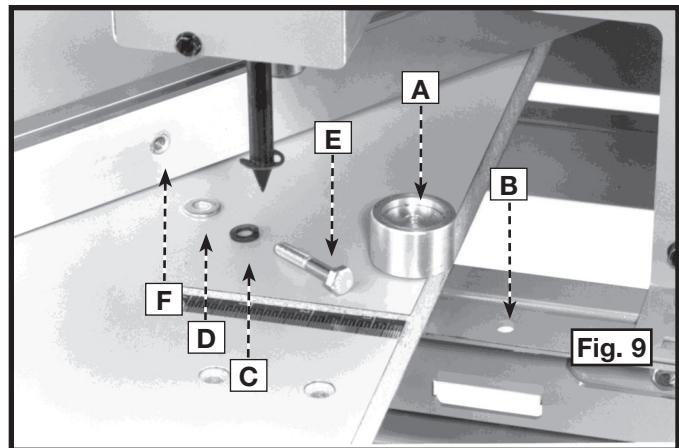

Fig. 9
1. Place the spacer (A) Fig. 9 over the hole (B) in the table bracket with the large countersunk end of the spacer (A) in the "up" position.
2. Place a 1/4" lockwasher (C) Fig. 9 and a 1/4" flat washer (D) on the 1/4-20 x 1-1/2" (38.1 mm) hex head screw (E). Insert the screw (E) up through the hole (B) in the table bracket and through the hole in the spacer (A). Thread the screw (E) into the threaded hole (F) on the bottom of the fence.